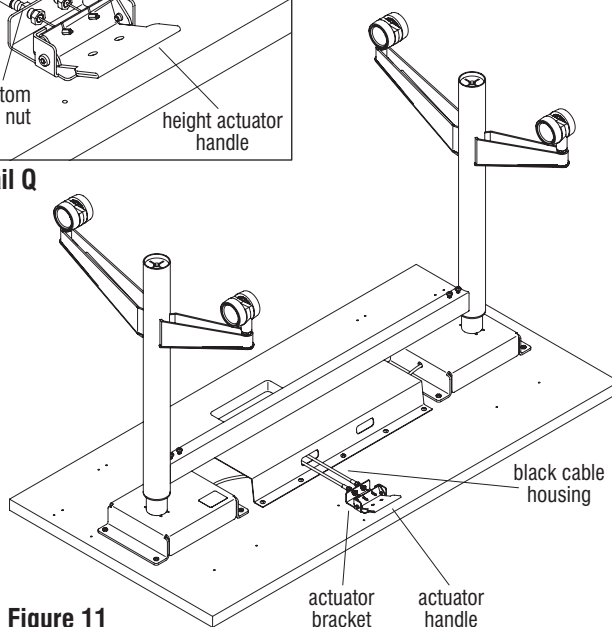

Figure 11
26. Gently pull down on each black cable housing under the cable actuator assembly to assure the hex ends are nested snugly in the actuator handle, and the actuator handle is also pulled down tight to the top flanges of the actuator bracket. Then twist each bottom M8 nut upward, finger-tight against the actuator bracket, to assure the cable's hex end is snug and nested in the conical indent of the handle (Figure 11 & Detail P).